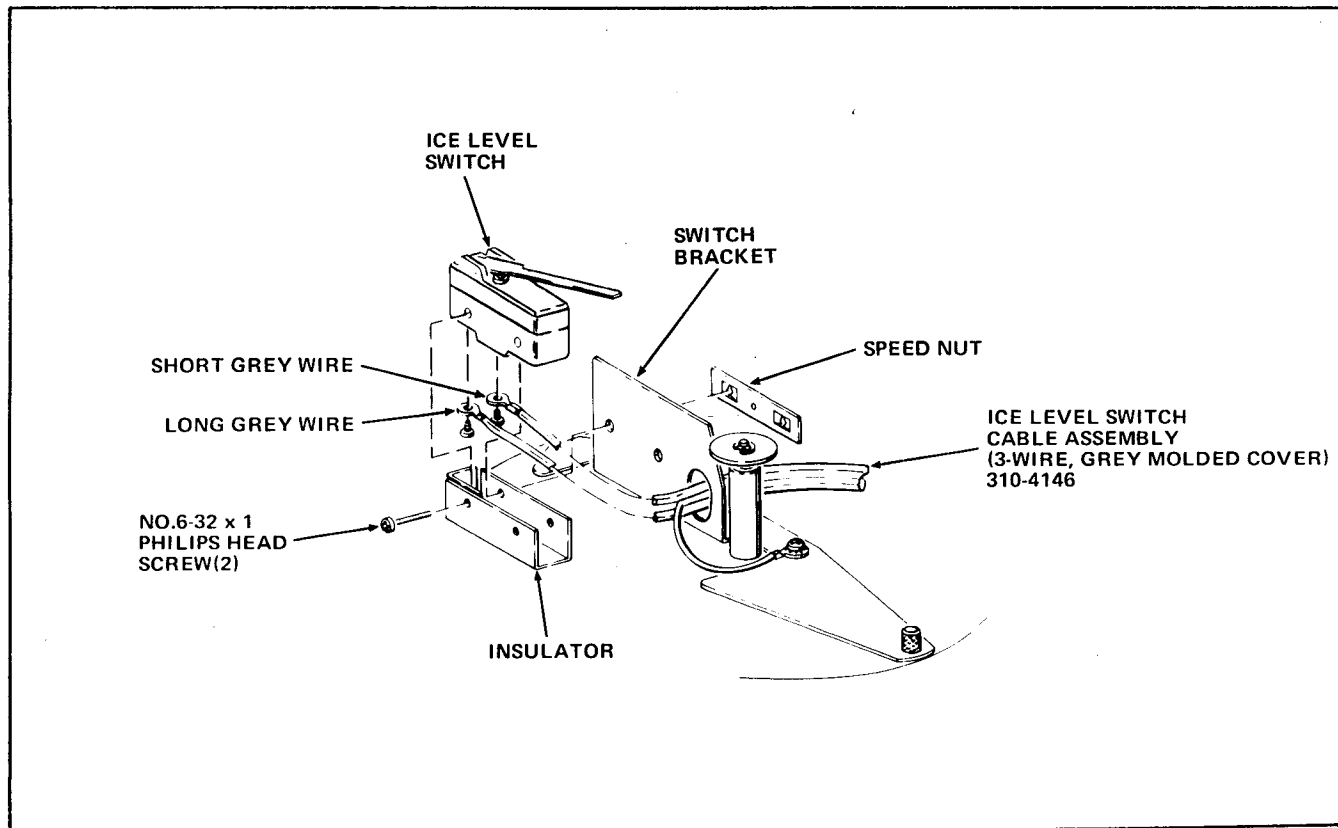

FIGURE III-6
2. Insert the replacement Ice Level Switch Cable Assembly - 3-wire Grey Molded Cover (part number 310-4146 included in the Kit) through the hole in the Switch Bracket from which the Cable Assembly was removed in step III-C7. Be sure the end of the Cable with the 3-brass ring-terminals is toward the Switch side of the Switch Bracket. See Figure III-6.